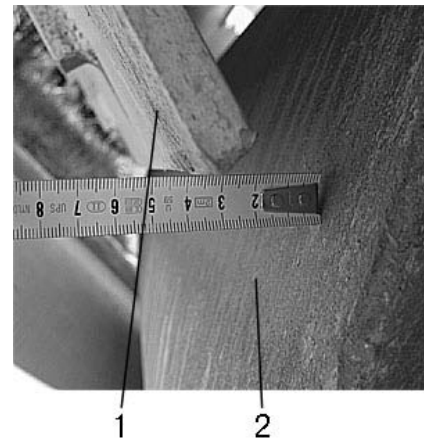

Figure 3-6
3.4.1.5 Adjust the scraper spacing (figure 3-6)